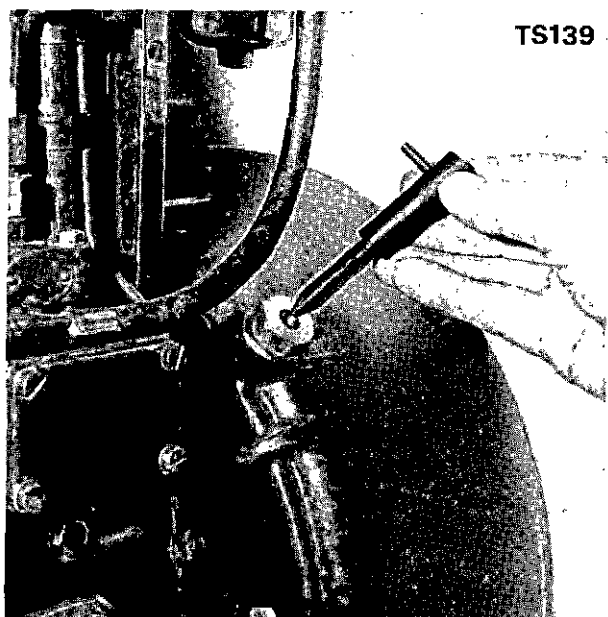

Fig. 149 Flywheel Locking Tool
**FLYWHEEL LOCKING TOOL (Fig. 149)**